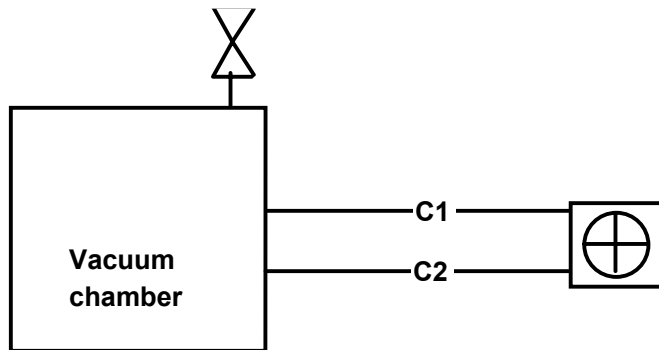

Figure 3.10 Conductance elements connected in parallel.
C_T = total conductance for elements C_1 , C_2 , etc. which are connected in Parallel in figure 3.10
3.11 In figure 3.10, if C_1 and C_2 , have the same values as in the previous problem, what is the net conductance of the assembly?